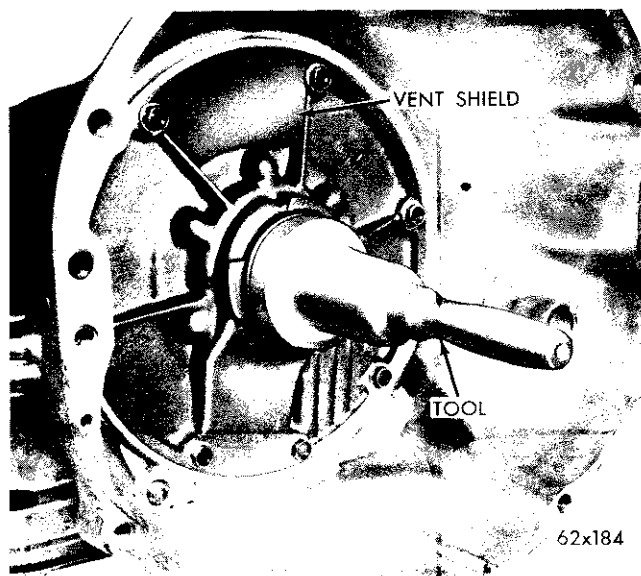

Fig. 51—Installing Front Pump Oil Seal
(2) To install a new seal, place the seal in the opening of the pump housing (lip side facing inward). Using Tool C-3860, drive the seal into the housing until the tool bottoms (Fig. 51).